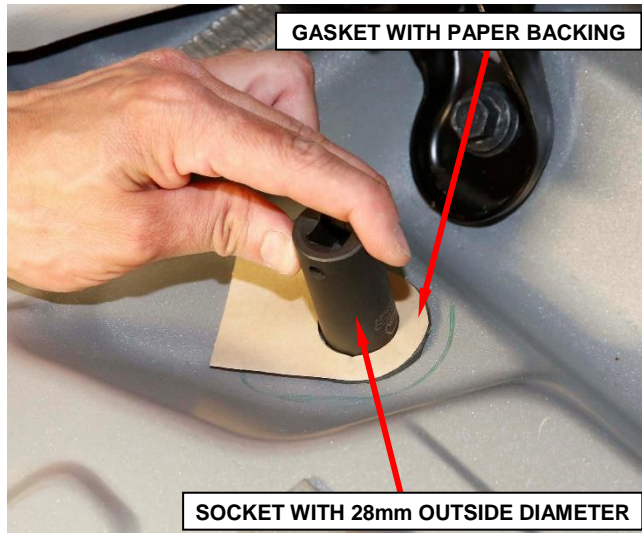

Figure 50 – 12-Volt Isolator Gasket
4. Select an appropriate size socket with an outside diameter of 28mm that fits snugly into the vehicle floor pan isolator hole (Figure 50).
5. Use the socket as an alignment tool in order to center the isolator gasket (Figure 50).
6. Remove the paper or plastic film backing from one side of the isolator gasket then carefully center and apply the gasket to the floor sheet metal (Figure 50).